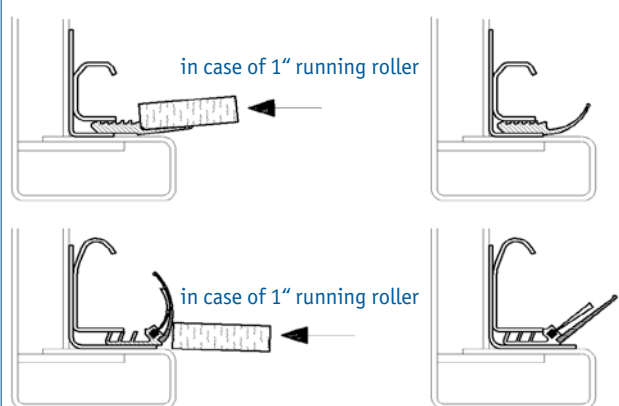

Fig. 4.2
- Press in the seal by placing a wood piece onto the location of the seal provided for that and hammering this securely into its seating over the whole length (Fig. 4.2).